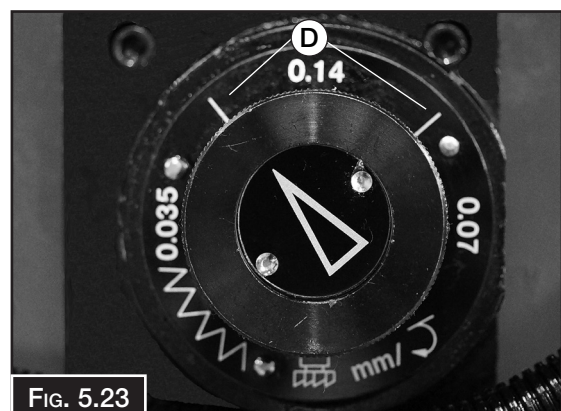

FIG. 5.23
1. Move the feed dial to one of the two neutral positions. (D in Fig. 5.23)